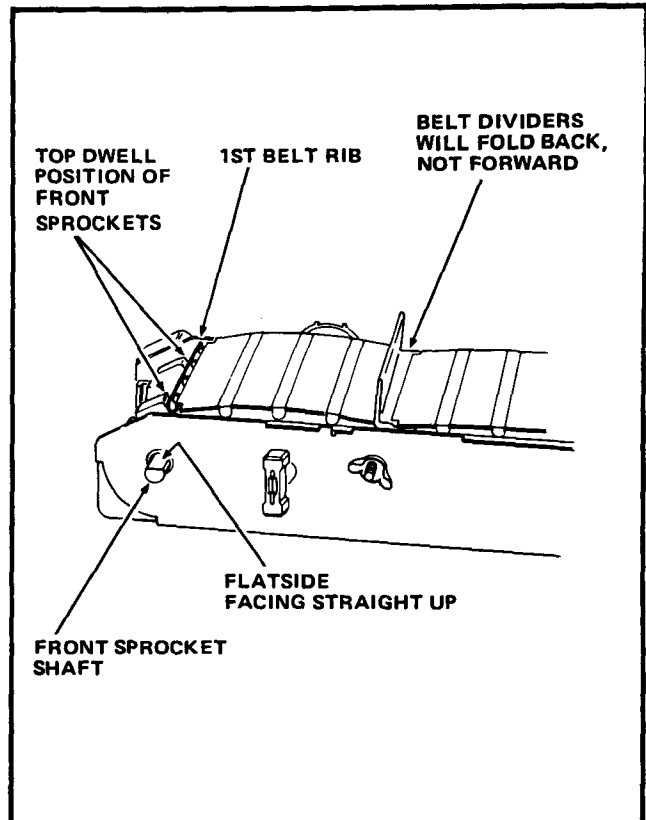

FIGURE 9
11. Lay the Product Belt on the top of the Module so that the Belt Divider will fold back, not forward. See Figure 9.
12. Turn the Front Sprocket Shaft so that its Flat side is facing straight up. See Figure 9.
13. Place the First Rib on the Belt into the top dwell position on the Front Sprockets. See Figure 9.